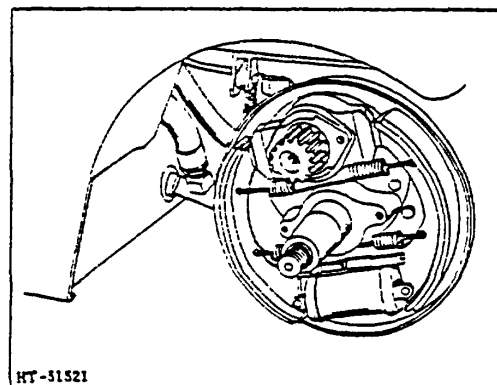

Figure 3. Dust Shield Removed
1. Remove drive wheel assembly and components to expose the wheel cylinders and brake shoes (Figure 3). (Refer to DRIVE WHEEL REMOVAL, MAINTENANCE MANUAL.)